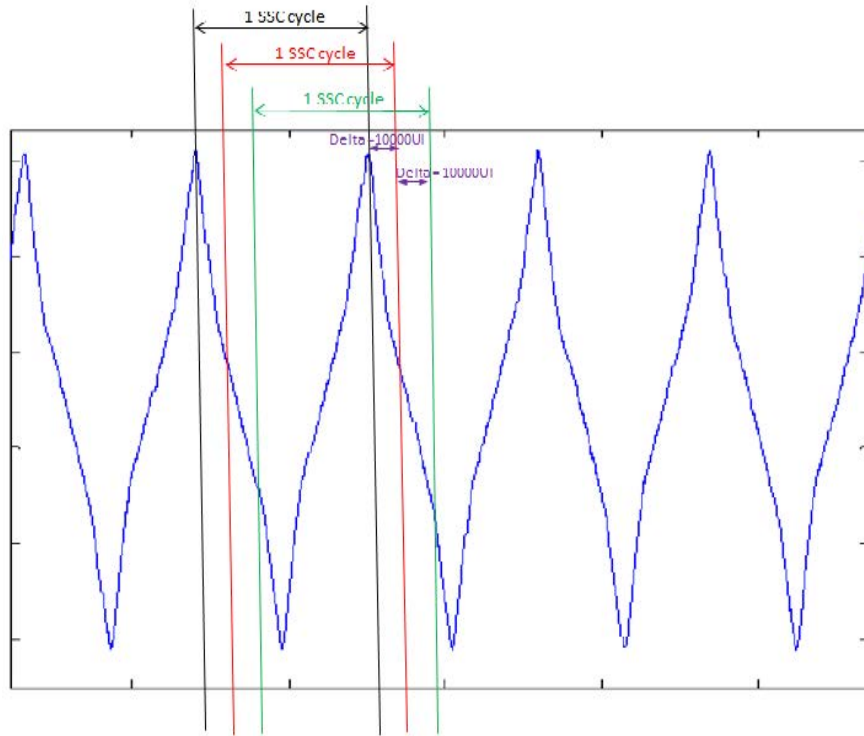

Figure 42 Measurement of UI_MEAN over at least 10 SSC Cycles
- 4 Measure UI_MEAN over different windows that uniformly cover the scope capture over at least 300ms (more than 10 SSC Cycles) with 10000 UI window jumps. See Figure 42.